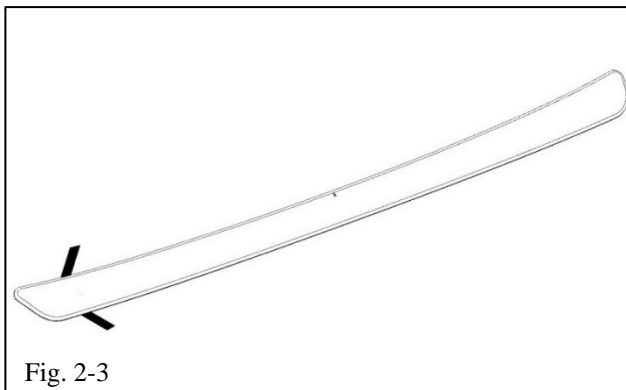

Fig. 2-3
- (c) Ensure all the tabs are folded so they can be accessed from the top once the protector is seated on the rear bumper (Fig. 2-3).